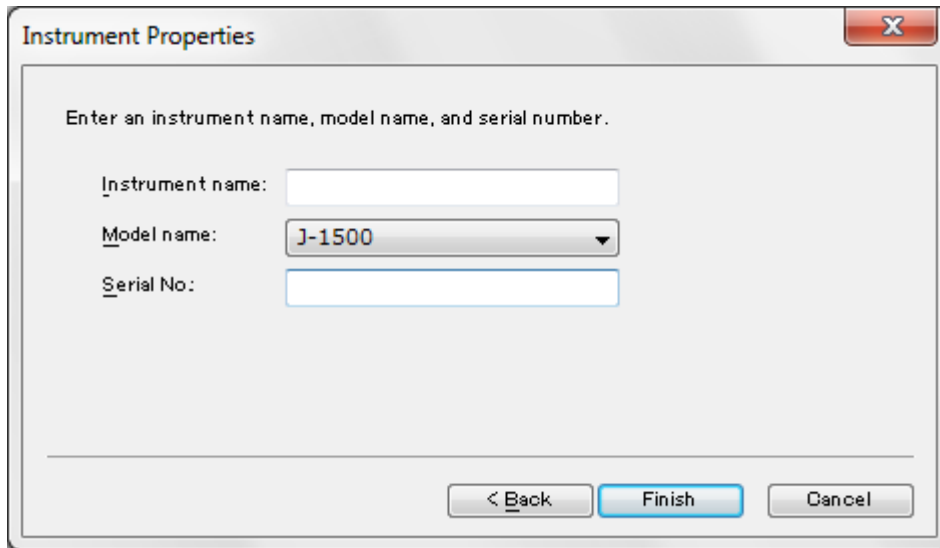

Figure 2.3 [Instrument Properties] dialog box
- (1) Select the check box for the JASCO J-1000 series control driver and click the <Next> button to display the dialog box in Fig. 2.3.